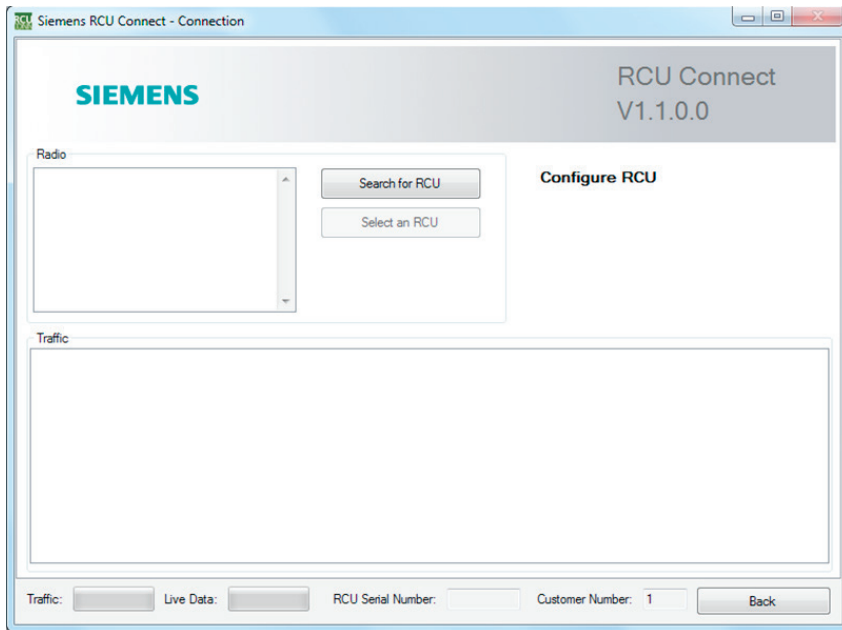

Figure 42: RCU Connect – connection window
4. When suitable layout files and configuration templates have been selected, the “Connection” screen is displayed as shown in Figure 42.